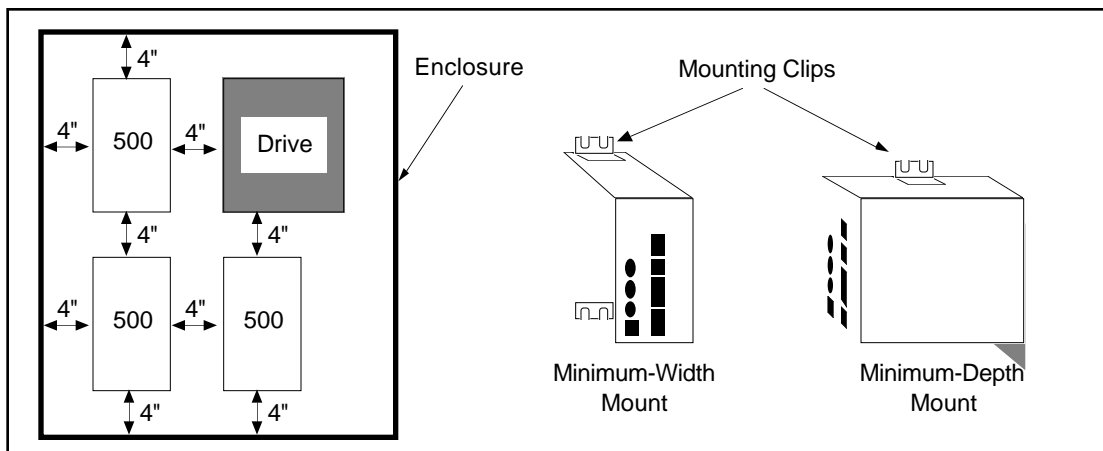

Figure 3-2. Panel Layout Guidelines and Mounting Options
- Make sure there is at least 4 inches of unrestricted air-flow space around the Model 500 to allow for efficient convection cooling (refer to Figure 3-2). Fan cooling may be necessary if adequate air flow is not provided.
You can mount the Model 500 for minimum depth or width, depending on how you attach the mounting clips to the unit (see Figure 3-2 above).